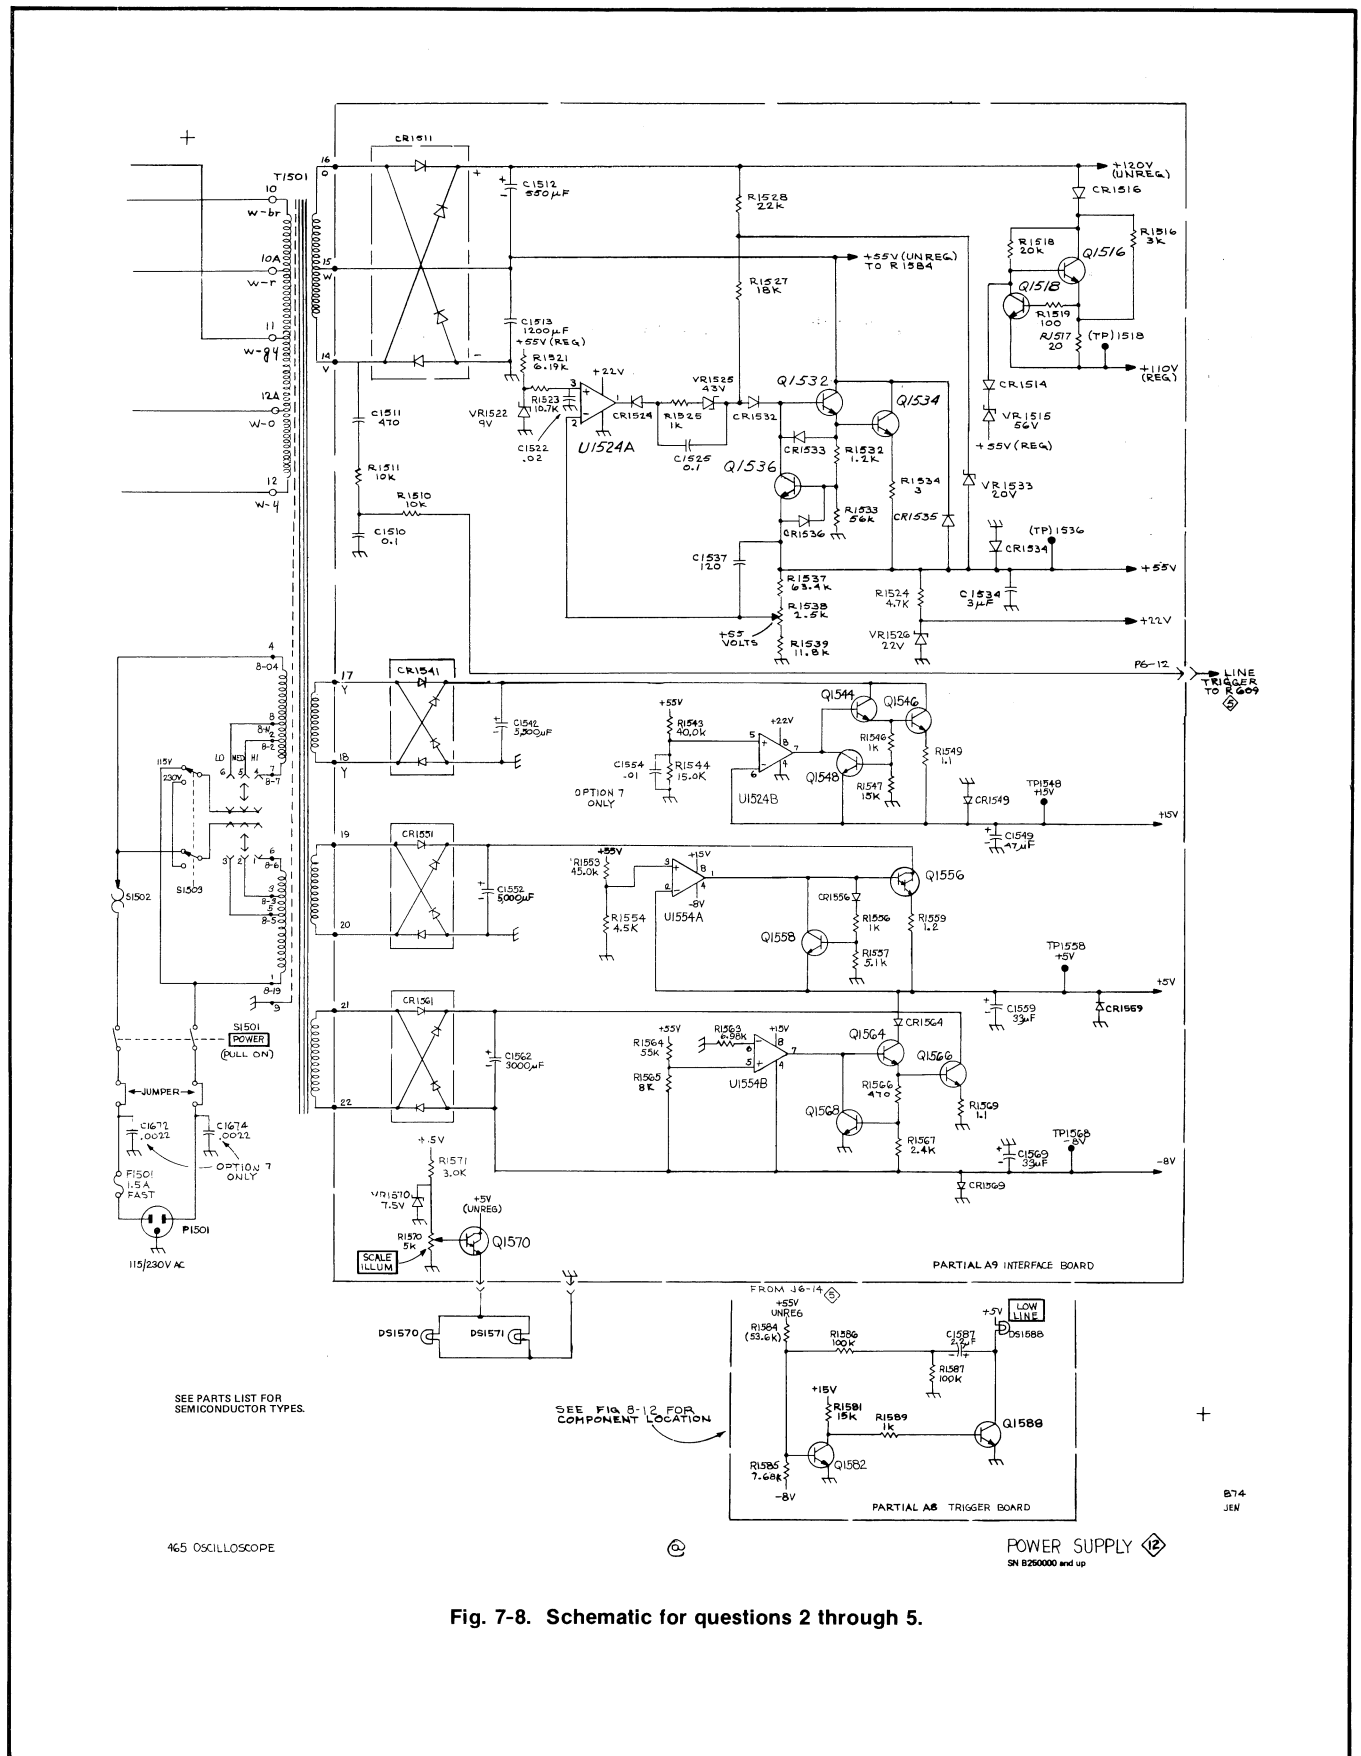

Fig. 7-8. Schematic for questions 2 through 5.
2. Figure 7-8 is a schematic of an oscilloscope power supply. Circle and label the components associated with the following blocks of the +55 volt power supply. Identify each block with the letter preceding that block.
3. Label each of the following components or circuits on Fig. 7-8 that are associated with the +5 volt supply with the appropriate letter from the list below.
4. Listed below are several possible faults that might occur in a power supply and several symptoms that might appear as results of the faults. For each of the abnormal symptoms listed, write in the letter(s) of the fault(s) that would cause that symptom. Assume that the supply is the +55 volt supply shown in Fig. 7-8.
5. Mark the items below that will have a pronounced ($\pm 5\%$ or worse) effect on the output voltage of the -8 Volt supply shown in Fig. 7-8. Assume only one fault is present at any given time.